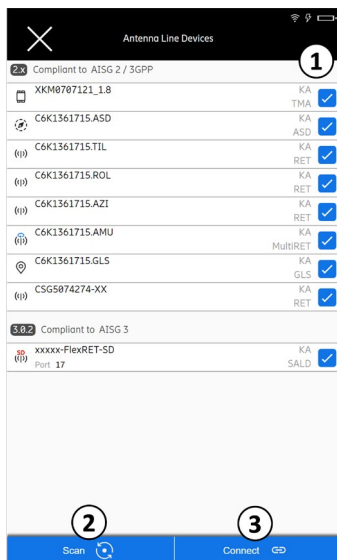

Fig. 48: Devices: ALD found
If no ALD is found when scanning the AISG bus, ① fig 48 is not available.
1. Tap ② in Fig. 48 to open the AISG protocol scanning options.
1. After pressing Connect in figure 48, section 9.1